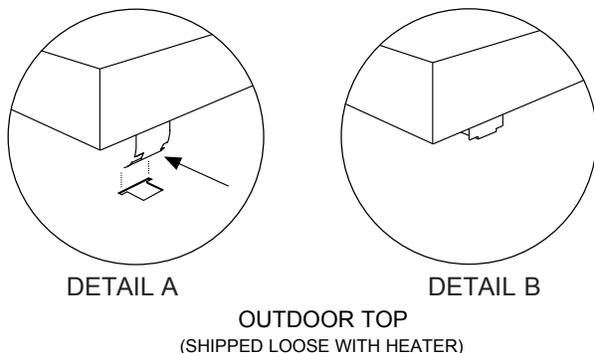

Figure 4. Outdoor Top Installation
1. Insert tabs into keyhole (4 places). See Figure 4, detail A.
2. Snap tabs into keyholes so as not to pull out. See Figure 4, detail B.